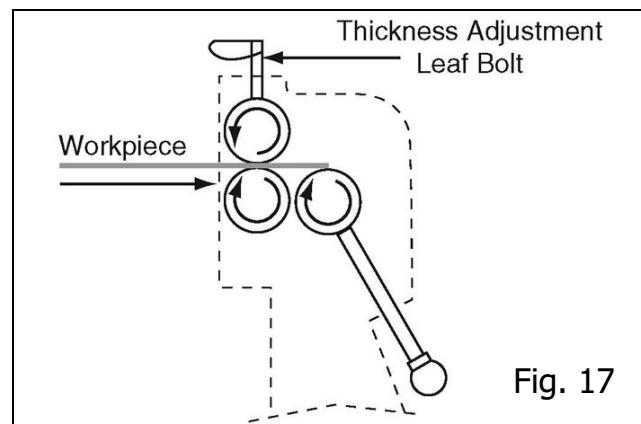

Fig. 17
2. Insert the workpiece between the upper and lower rollers and just over the rear roller, as illustrated in Figure 17, then snug the thickness adjustment leaf bolts down to hold the workpiece securely. Make sure you tighten the leaf bolts exactly the same amount.